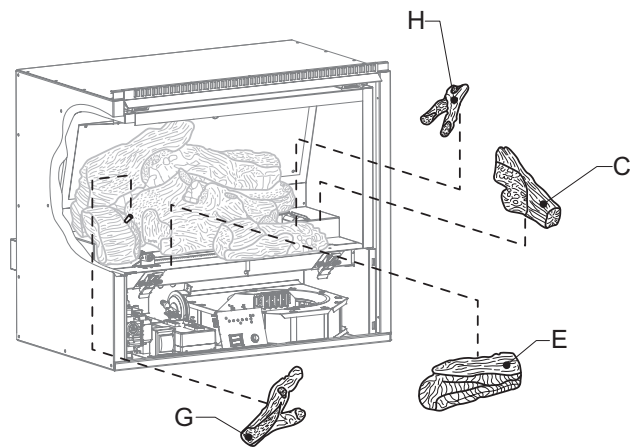

Figure 14B
5. Place Front Left Log (E) on left side of Firebox bottom. Notch in bottom of Front Left Log fits over front Hot Surface Ignitor. See Figure 14B.
6. Place Right Log (C) on right rear log support shelf. Top of log rests on Rear Log (A) and bottom of log rests on Firebox bottom. Charred portion of log must face inward.
7. Place Left Top Long Log (G) on the pin on Left Log (B). The upper left leg of Left Top Log will rest on Rear Log (A). The upper right leg of Left Top Log will rest on Middle Log (D).
8. Place Right Top Long Log (H) on the pin on the Right Log (C). The bottom left leg of the Right Top Log will rest in the indent on the right side of the Middle Log (D). The bottom right leg of the Right Top Log will rest in the indent in the Front Right Log (F).